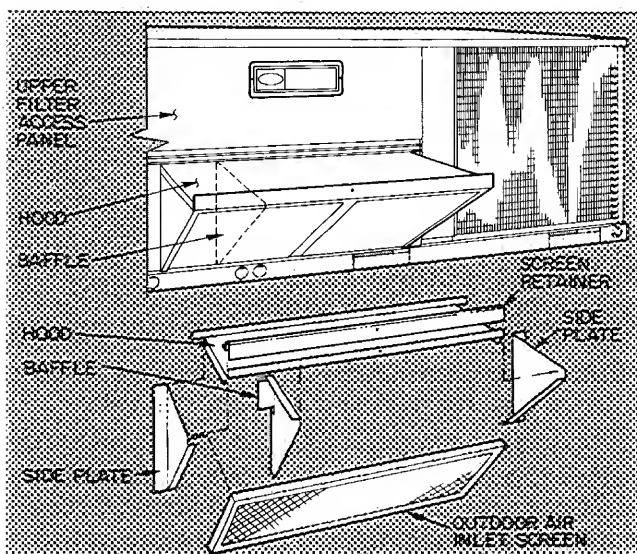

Fig. 17 — Economizer Hood Installation and Details (004,005,006,007 Units)
2. Remove economizer hood parts from unit filter area, and assemble leaving out the damper blade. See Fig. 17. Remove tape from barometric relief damper.